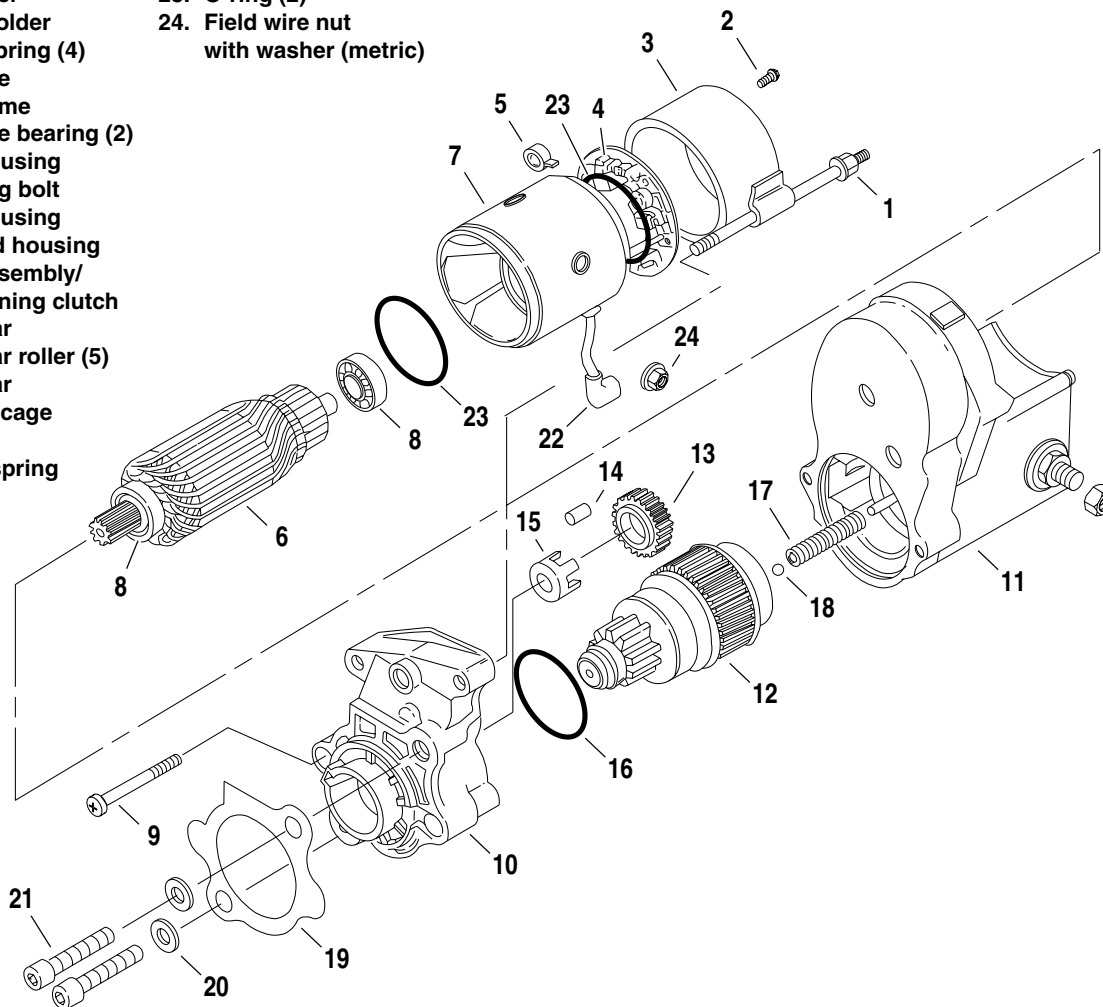

Figure 5-27. Starter Assembly
2. See Figure 5-27. When installing drive assembly components, open end of idler bearing cage (15) faces toward solenoid.
3. When installing drive housing (10) to solenoid housing (11), use **new** O-ring (16). Be sure to install return spring (17) and ball (18).
4. Lubricate armature bearings (8) with high temperature grease, such as LUBRIPLATE 110. Install armature (6) and field frame (7) to solenoid housing (11).
5. Install brushes and brush holder (4).
6. Install O-rings (23). Attach end cover (3) with end cover screws and O-rings (2).
7. Install thru-bolts (1).
8. Attach field wire (22) to solenoid housing (11) with field wire nut and washer (24) (metric). Replace rubber boot.